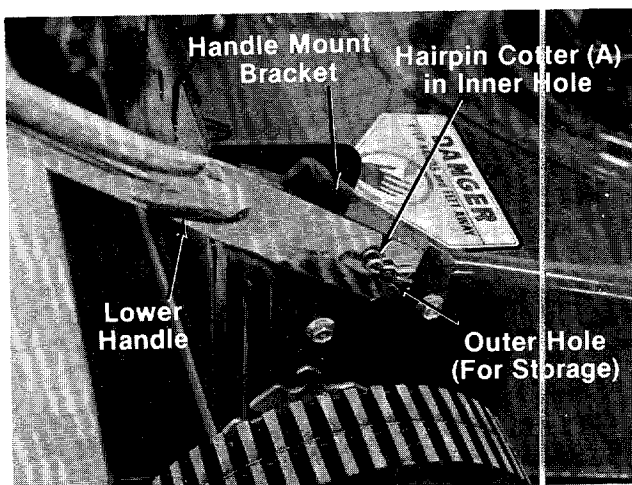

FIGURE 2.
- A (2) Hairpin Cotters
- B (2) Curved Carriage Bolts
- C (2) Lock Washers 5/16" I.D.
- D (2) Hex Nuts 5/16-18 Thread
- E (2) Cable Ties
3. Place bottom hole in lower handle in position over weld pins in handle mount brackets on deck. Make certain the instruction label on the lower handle can be read from the operating position. Secure by placing two hairpin cotters (A) in inner hole on weld pins. See figure 2.